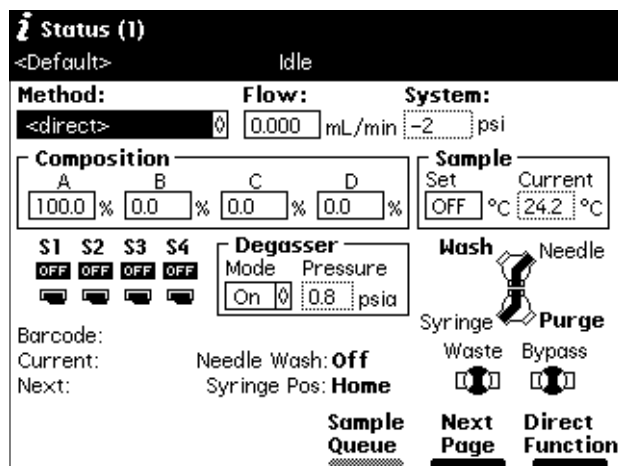

Figure 4-3 Status Screen (Example)
1. Press **Menu/Status** to display the Status screen (Figure 4-3).
5. Press **Menu/Status** to display the Status screen (Figure 4-3).